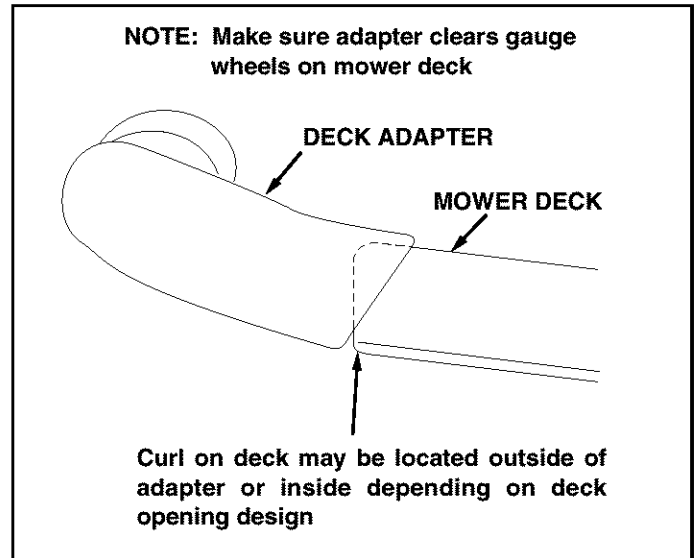

FIGURE 23
- Position the adapter over the deck opening, and check for fit of cutout as shown in figure 23. Trim cutout, if necessary, to allow tilting of adapter, keeping the fit as close as possible for best vacuum suction.